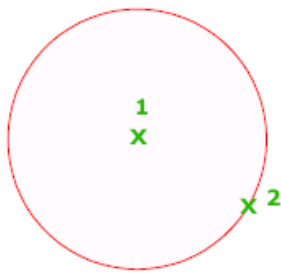

Figure 21
1. **Radius:** Creates a circle based on a center point and a radius. Enter a value, or specify a point (see Fig. 21)